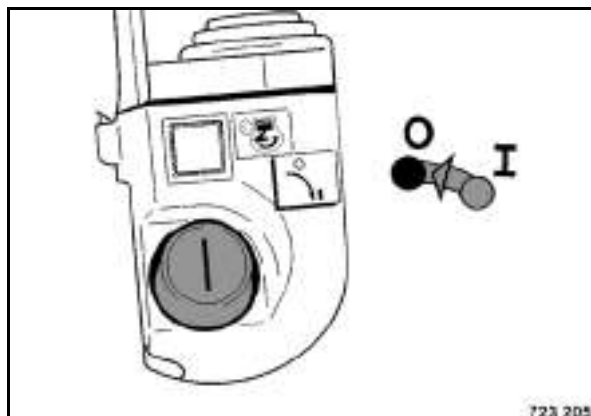

Fig. 75
- Switch off the transmitter (Fig. 75) with the ignition key.